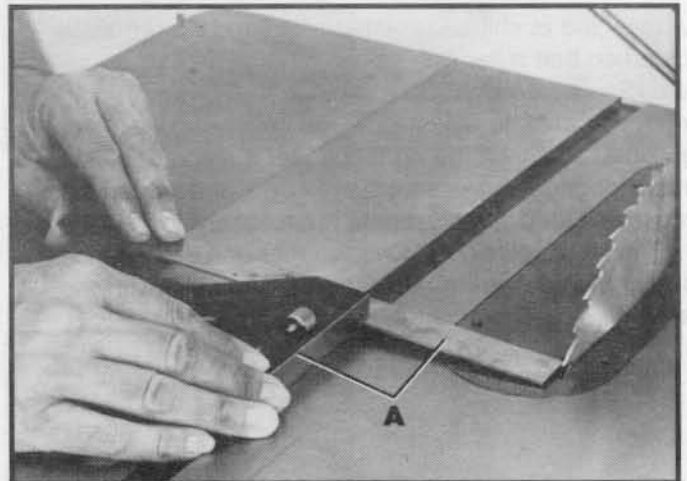

Fig. 48
2. Place a combination square (A) Fig. 48, on the table with one edge of the square in the miter gage slot, as shown, and adjust the square so the rule just touches one of the teeth on the saw blade at the forward position, as shown in Fig. 48. Lock the square in this position.